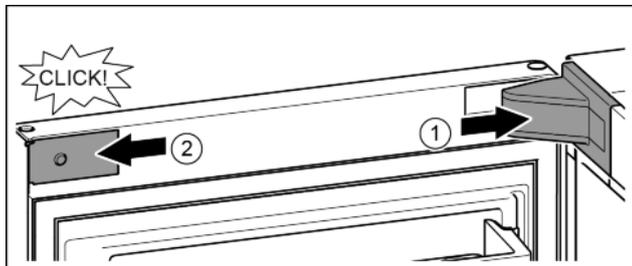

Fig. 17
- ▶ Position the bearing bracket and engage. If necessary push apart carefully. Fig. 17 (1)
- ▶ Position the panel on the side and click into place. Fig. 17 (2)